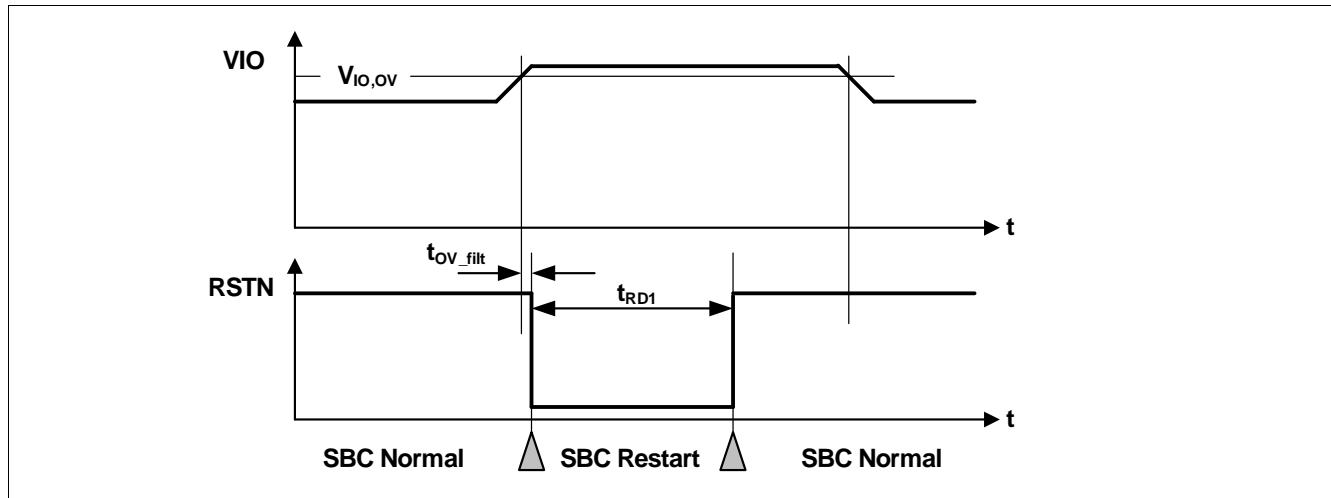

Figure 41 VIO Overvoltage Timing Diagram
- If the bit **VIO_OV_RST** is set in config 1/3, then SBC Restart Mode is entered. The FO output is activated. After the reset delay time (t_{RD1}), the SBC Restart Mode is exited and SBC Normal Mode is resumed even if the VIO overvoltage event is still present (see also Figure 41). The **VIO_OV_RST** bit is cleared automatically.